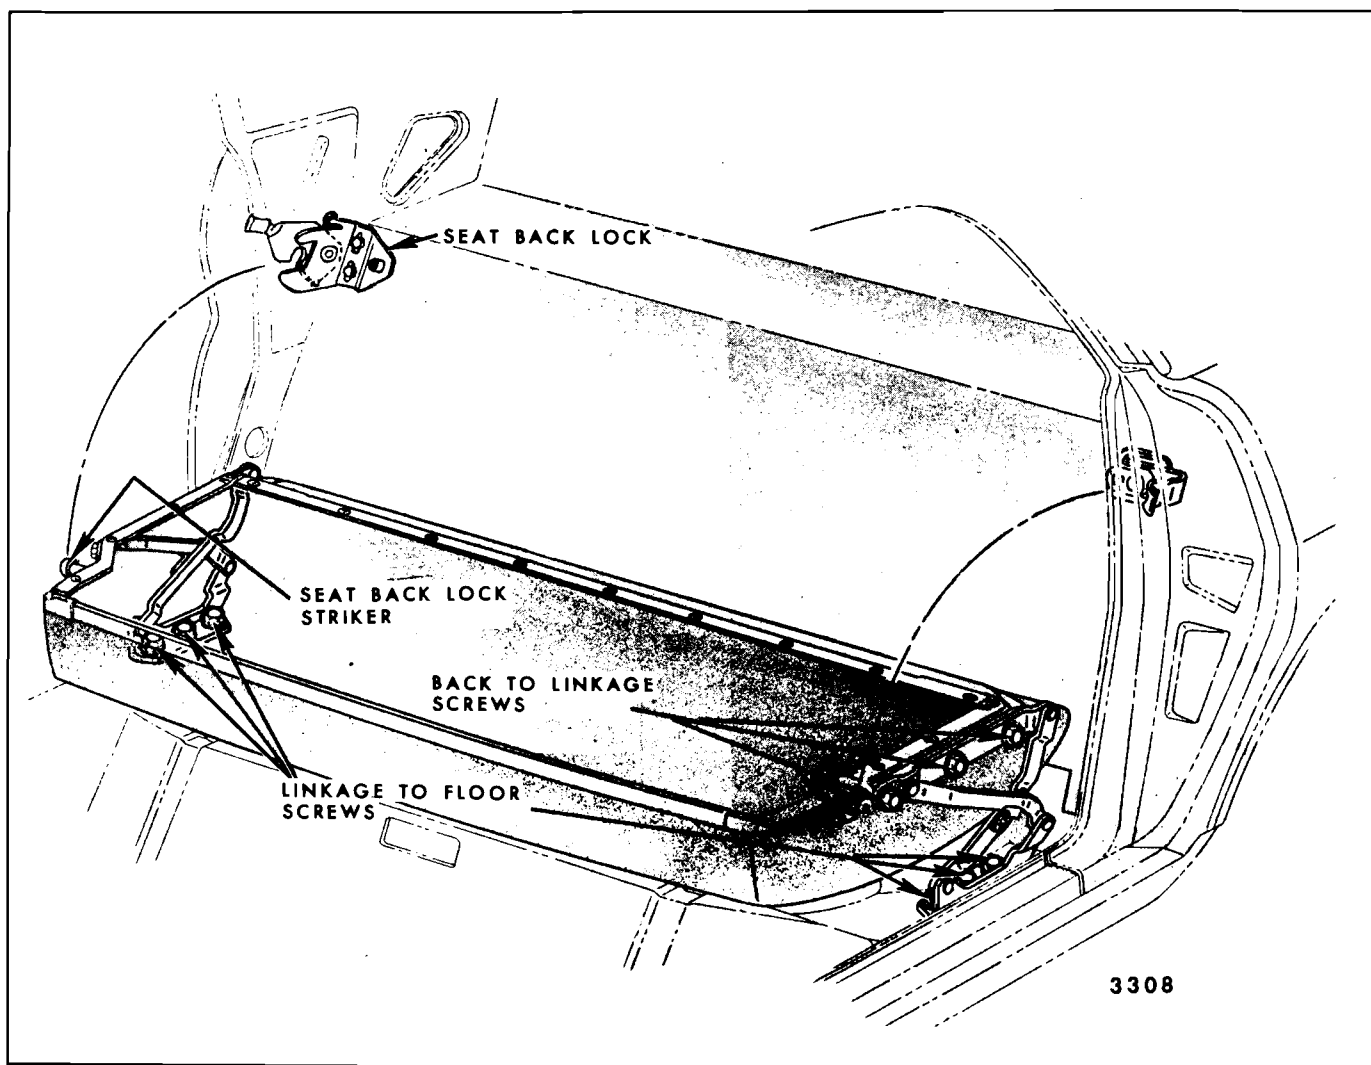

Fig. 15-60—Folding Rear Seat Back and Lock - Corvair
2. Lower folding seat back; then, remove three screws from both sides of seat back securing seat back to folding linkage (Fig. 15-60).
2. Mark position of linkage on floor pan. Remove bolts securing folding seat back linkage to floor pan (Fig. 15-60) and remove linkage.
2. Remove lock attaching screws (Fig. 15-60) and remove lock assembly from rear compartment front panel.